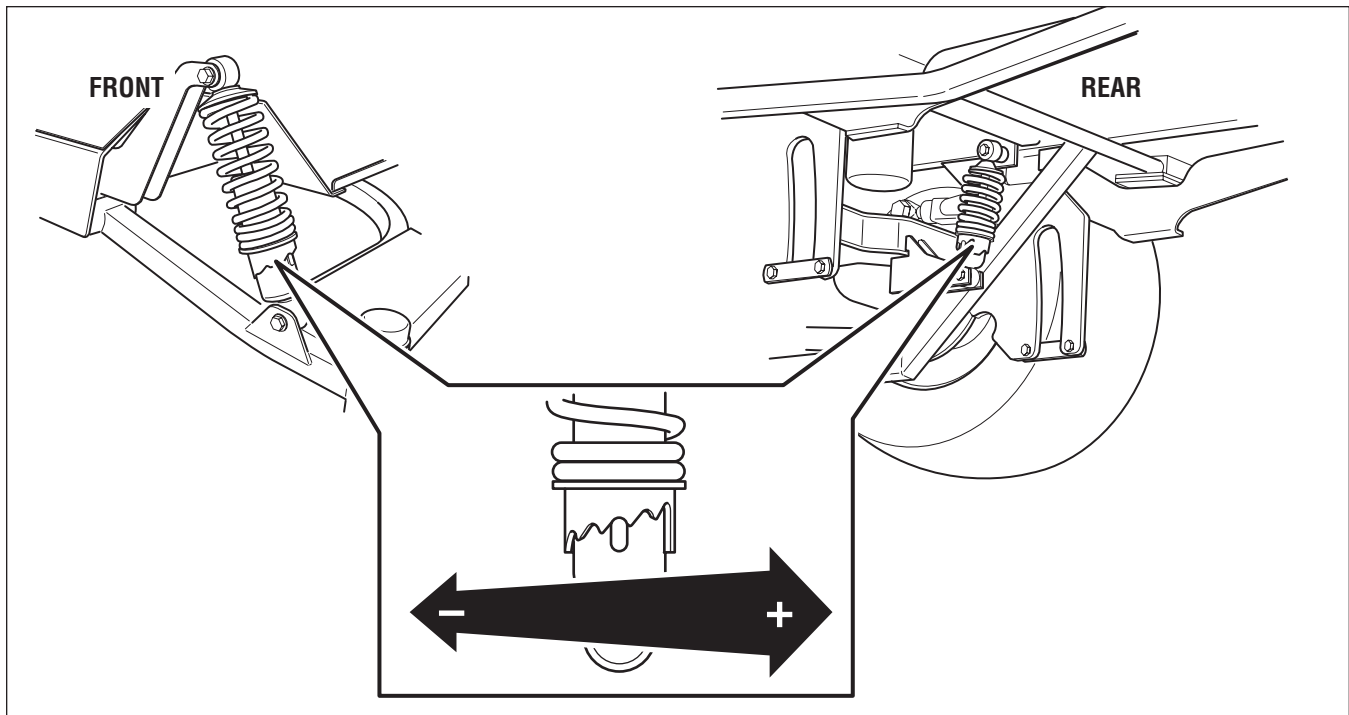

Figure 46. Adjust Spring Pre-Load
1. Locate the pre-load adjuster collar on the shock assembly. See Figure 46.